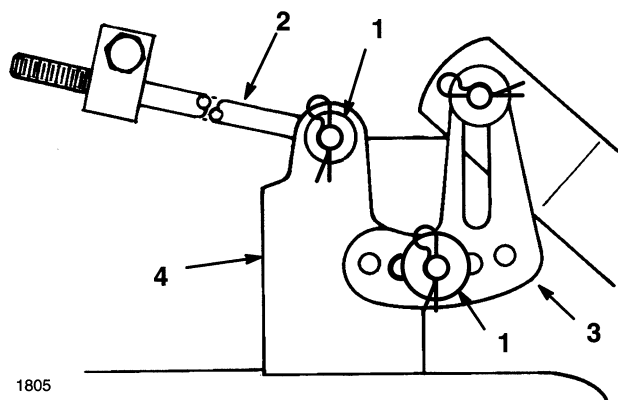

Figure 18
9. Remove the hair pin cotter and washer from the end of the long rod (Fig. 18). Slide the rod out of the mower mount.
10. Remove the hair pin cotter and washer at the mower leveling bracket (Fig. 18). Slide the bracket off the mounting pin. Re-install the washer and hairpin cotter for storage.